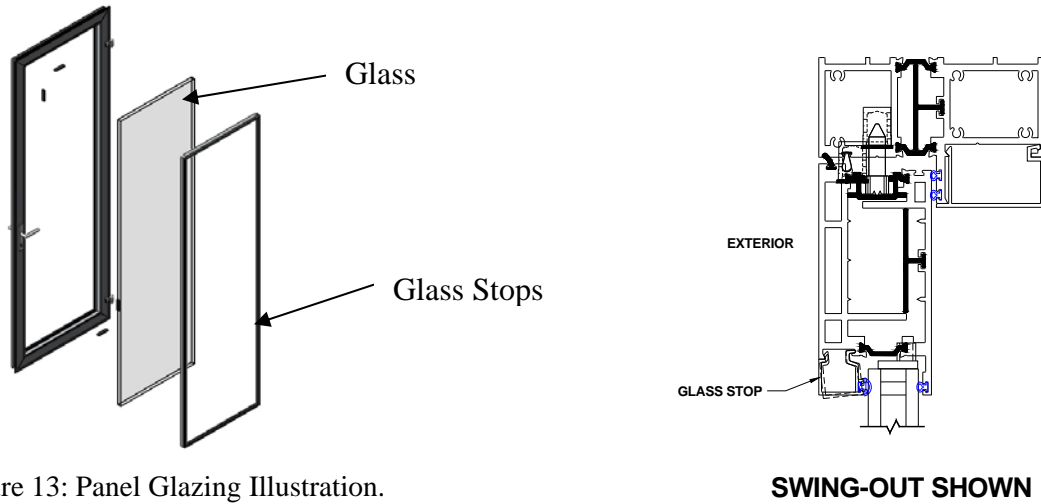

Figure 13: Panel Glazing Illustration.
- Install glass to inner frame then install glass stops (see Fig. 13).